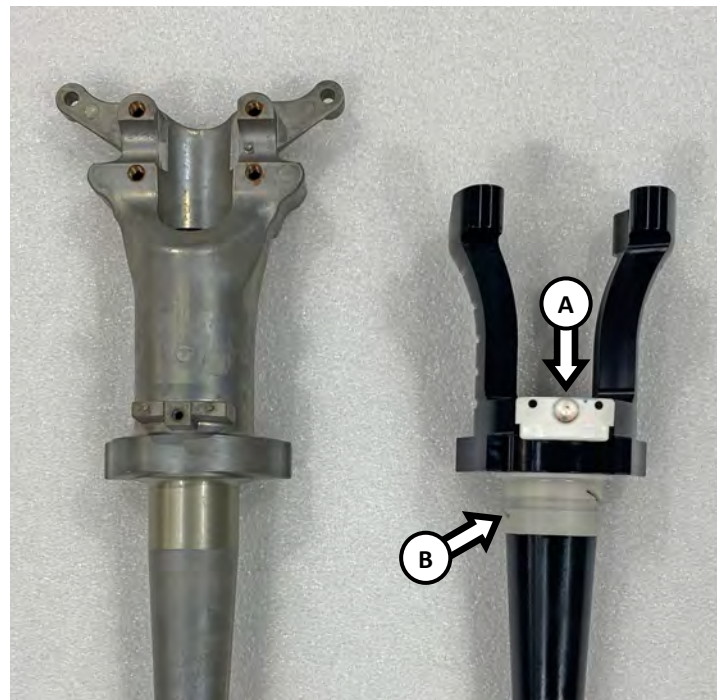

Figure 11
Remove steering shaft sensor magnet from OEM steering shaft. Discard screw. Install steering shaft sensor magnet onto supplied RIVA Billet Steering Shaft using supplied M5x10 BHCS & M5 flat washer (A). (See figure 11) **NOTE: Apply blue Loctite to threads. Torque to 2.6lb-ft/3.5N-m.**
Transfer upper steering shaft bushing from OEM steering shaft to supplied RIVA Billet Steering Shaft (B). (See figure 11) **NOTE: Apply waterproof grease liberally to RIVA Billet Steering Shaft and outside of bushing.**